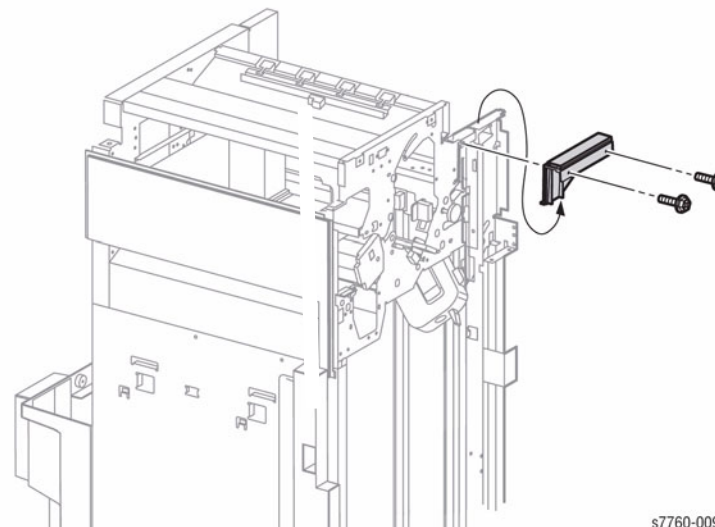

Figure 1 Removing Front Top Cover
3. Remove the 2 screws and remove the Front Top Cover (Figure 1).